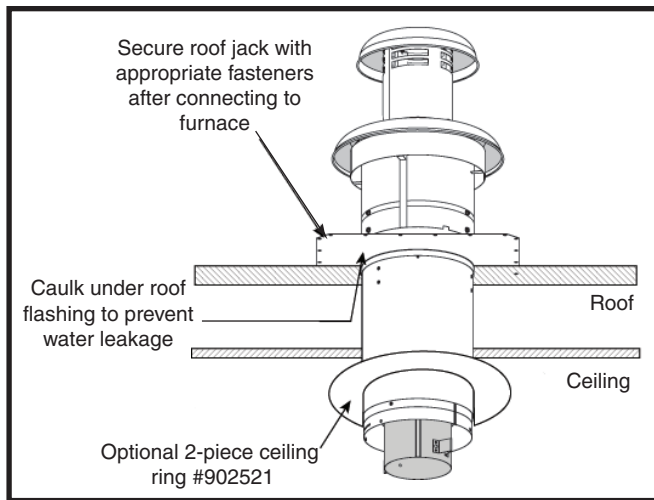
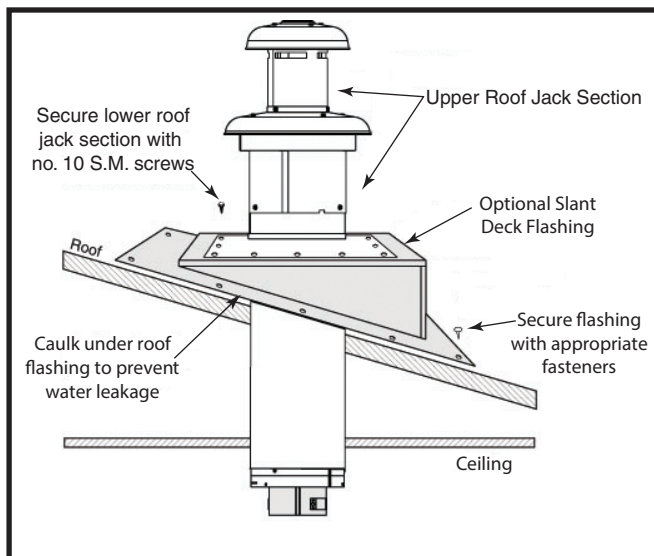

Figure 20. Flat Roof
Figure 21. Pitched Roof
1. Apply caulking compound on underside of roof flashing to form a continuous strip at least 3/8" wide around the underside of the perimeter of the flashing. For flat roof, see Figure 20 or see Figure 21 if roof is pitched.